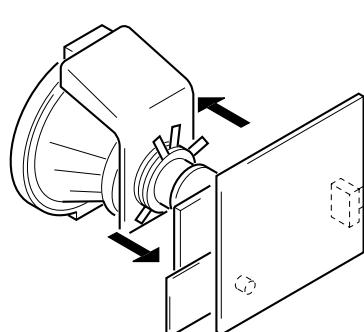

Fig. 3-2
- Position neck assy as shown in Fig3-2.
- Move the deflection yoke forward and adjust so that the entire screen is green. (See Figure 3-2.)